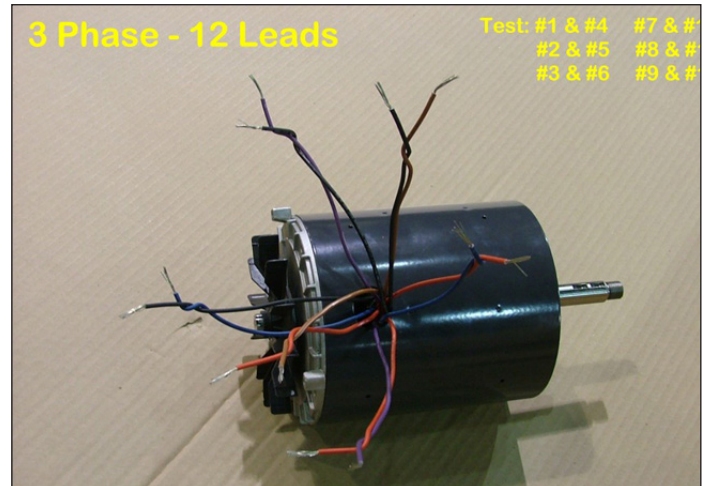

Figure 34. Testing 3 Phase Stator
2. Using an ohmmeter, check continuity across leads (Figure 34).